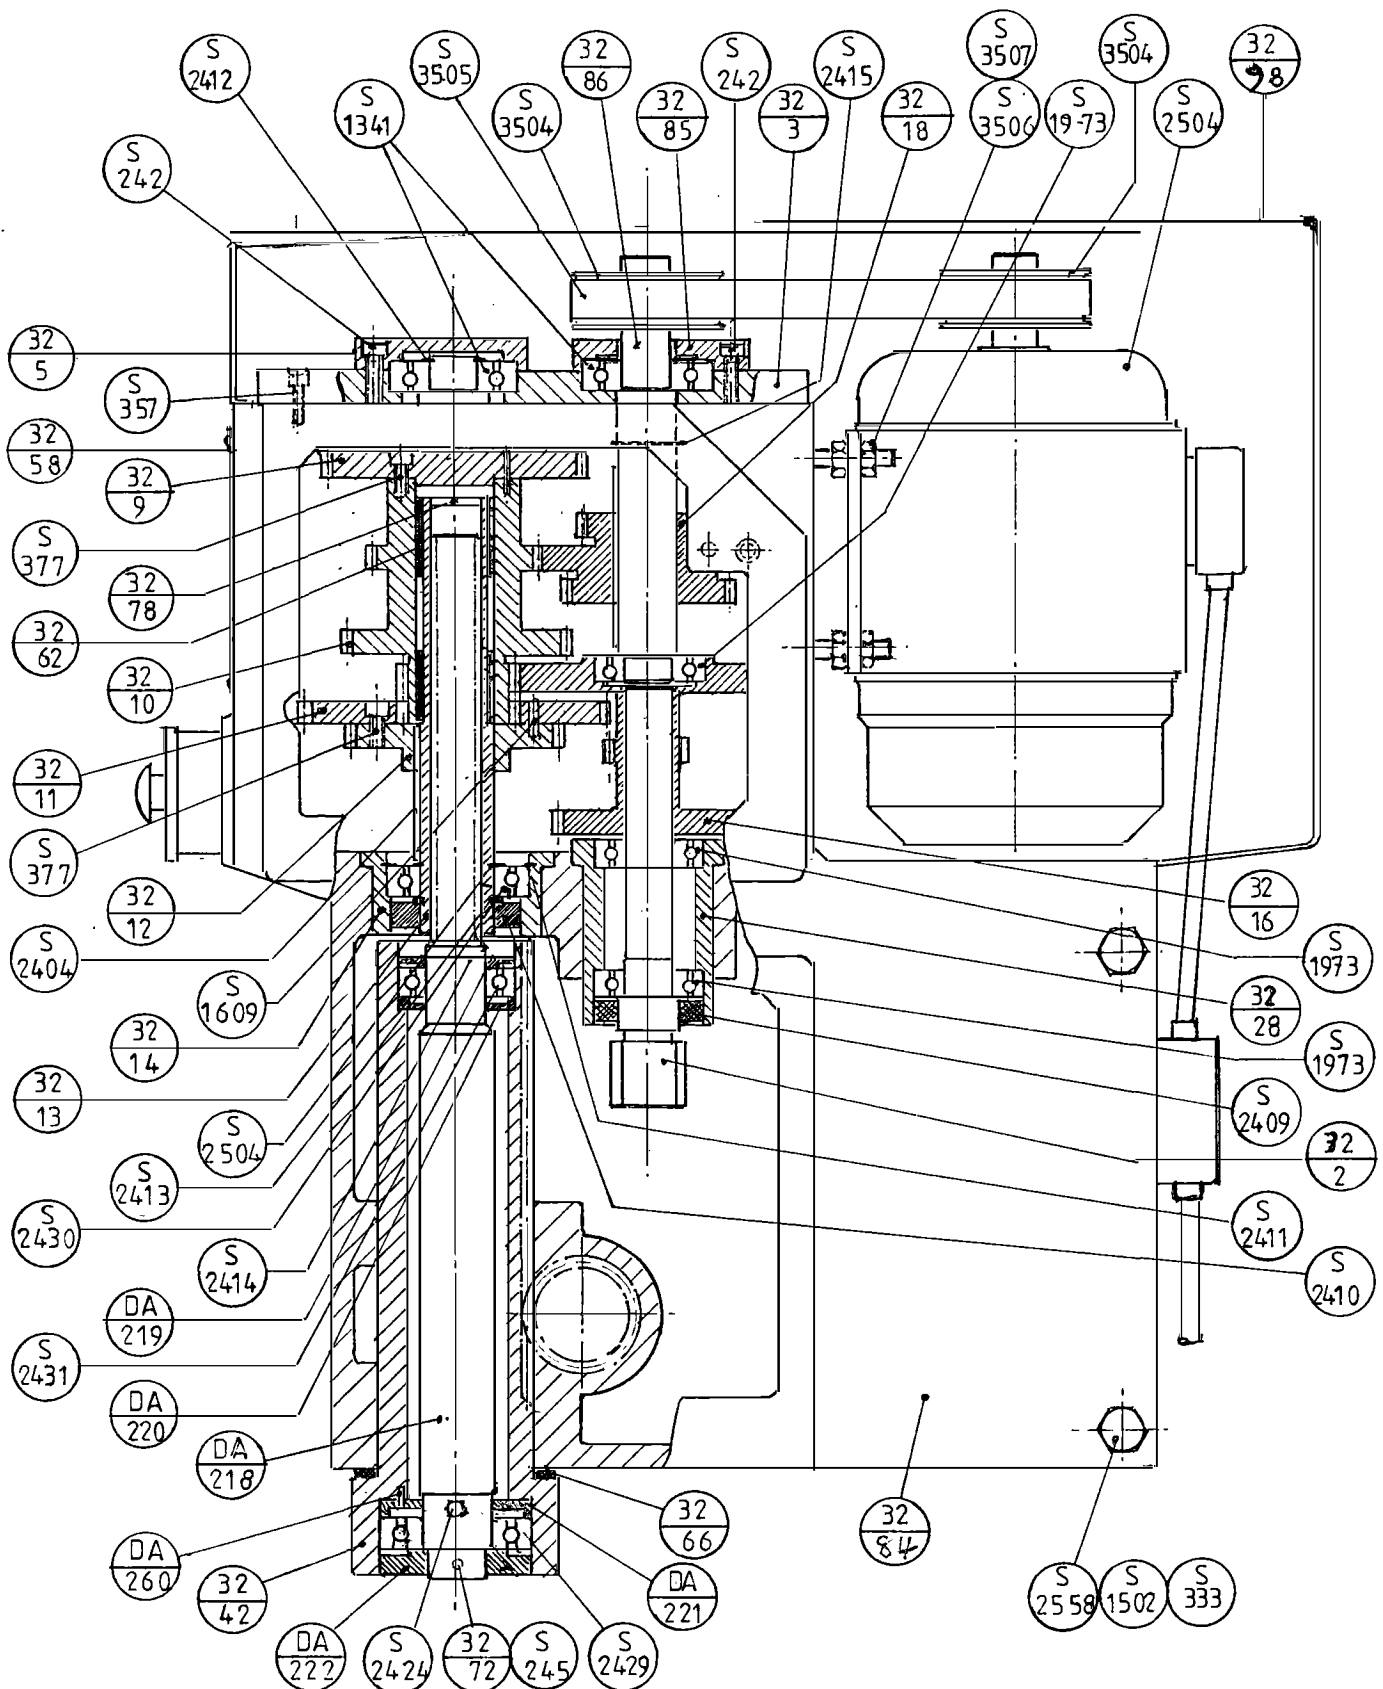

FIG. 3
(Fig 3)
3) DISASSEMBLY AND ASSEMBLY OF THE CENTRAL SCREW (fig. 3)